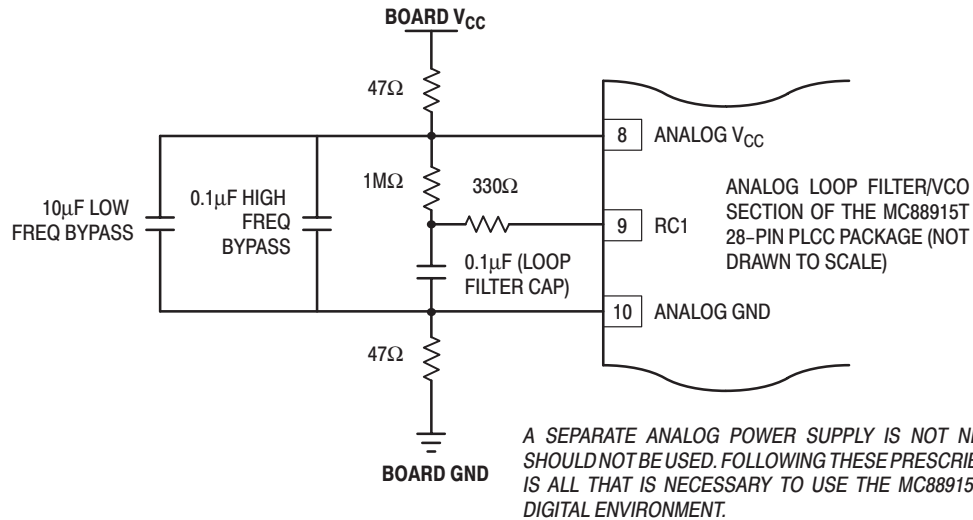

Figure 6. Recommended Loop Filter and Analog Isolation Scheme for the MC88915T
1. Figure 6 shows a loop filter and analog isolation scheme which will be effective in most applications. The following guidelines should be followed to ensure stable and jitter-free operation:
If good bypass techniques are used on a board design near components which may cause digital V_{CC} and ground noise, the above described V_{CC} step deviations should not occur at the 88915T's digital V_{CC} supply. The purpose of the bypass filtering scheme shown in Figure 6 is to give the
2. In addition to the bypass capacitors used in the analog filter of Figure 6, there should be a 0.1μF bypass capacitor between each of the other (digital) four V_{CC} pins and the board ground plane. This will reduce output switching noise caused by the 88915T outputs, in addition to reducing potential for noise in the 'analog' section of the chip. These bypass capacitors should also be tied as close to the 88915T package as possible.